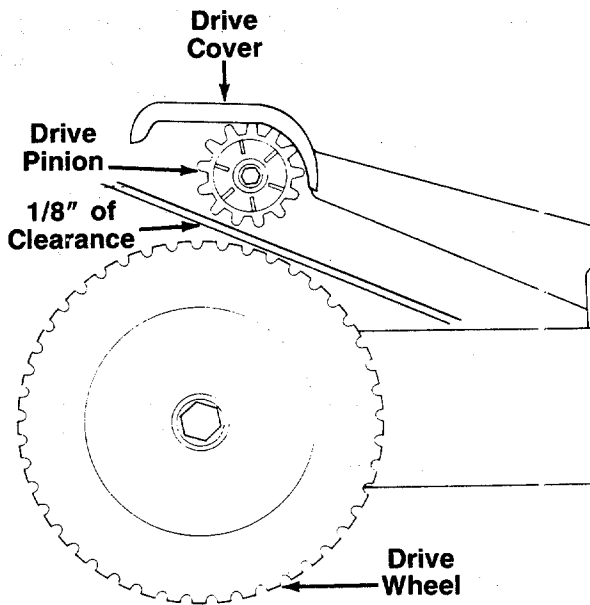

FIGURE 6.
**NOTE:** If necessary, push down on the drive cover (see figure 6) to obtain sufficient slack in the cable.
When the clutch control is engaged (clutch control handle is squeezed against the upper handle), the drive pinions should mesh with the gear tread tires. The drive pinions should clear the drive wheels when the clutch is disengaged by a minimum of 1/8". See figure 6.